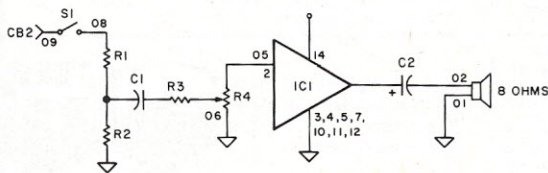

Fig. 1. Sound module circuit.
All programs use the CB2 port to serially shift out 1s and 0s to produce different frequencies. The circuit uses a simple audio amplifier IC1. Fig. 1 shows a schematic of this sound module. Volume is controlled by R4, which should be part of the basic Expander. The entire circuit uses a 3×4 inch printed circuit (PC) board. All components are wired as shown in Fig. 1.